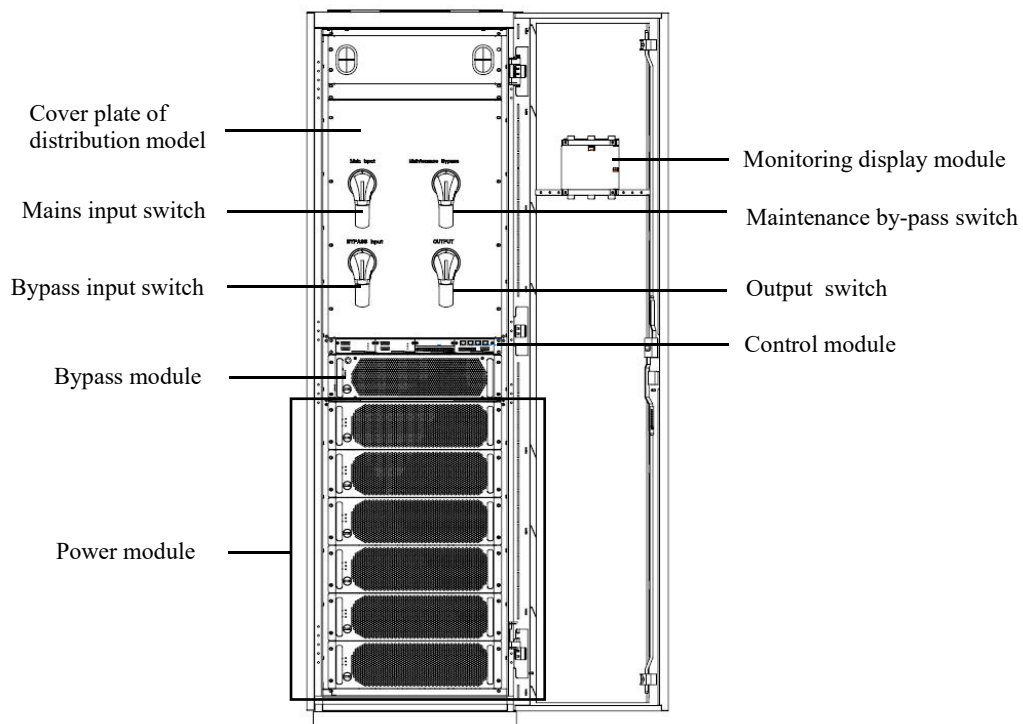

Fig. 1-8 Structure of 300kVA UPS (full-load)
5) The full-load structure of 300kVA UPS is shown in Fig. 1-8 in which the front door of the UPS is opened.